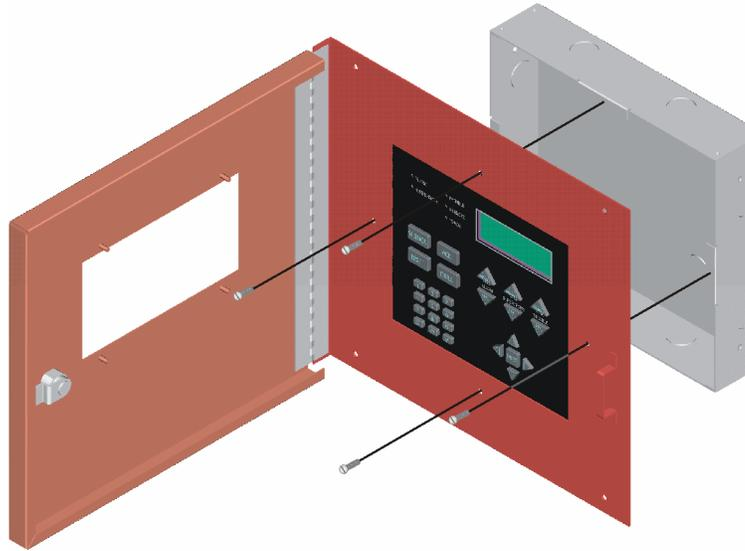

Figure 4.18 Attaching Annunciator/Door Assembly to Backbox
4. Attach the annunciator and door assembly to back box as shown in Figure 4.18 using the supplied screws.
- Attach the annunciator and door assembly to back box as shown in Figure 4.18 using the supplied screws.